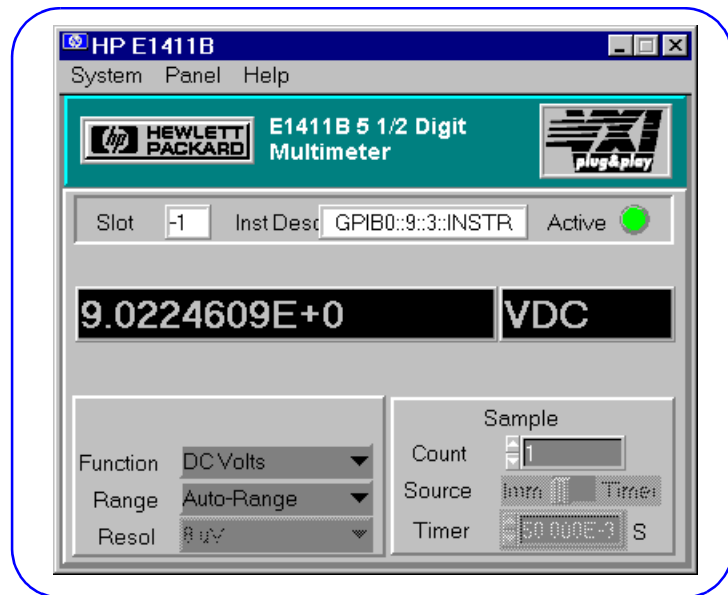

Figure 26. Example: HP E1411B Soft Front Panel Display
- 2 To display the HP E1411B Soft Front Panel, turn the PC ON and click *Start/Programs/Vxipnp/HP E1411 DVM (32-bit SFP)*. Then, to measure the 9V battery value, click the *System/Auto Update* menu item. See Figure 26 for a typical display.
3 Some features of the Soft Front Panel display in Figure 26 are: